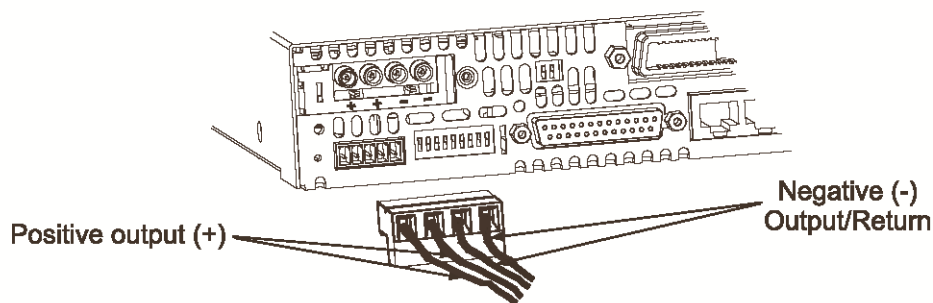

Fig. 3-7: Load wires connection to the output connector
- c) Insert the stripped wires into the terminal and tighten the terminal screw securely (see Fig.3-7)